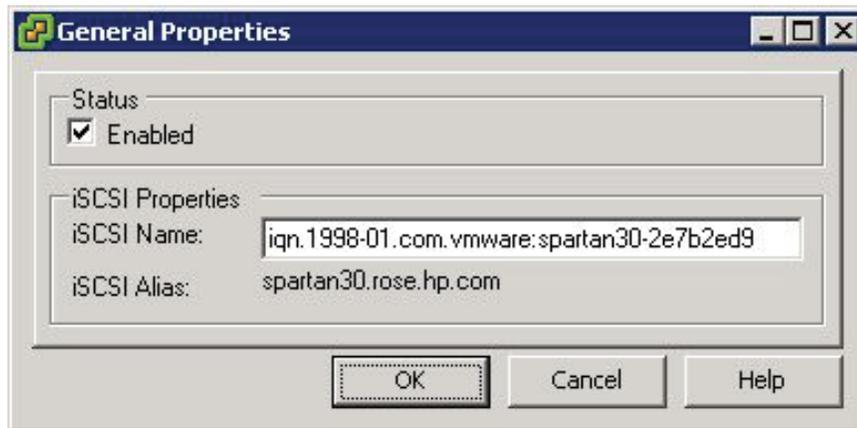

Figure 39 General properties dialog box
- f. The **General properties** dialog box displays (Figure 39). Select the **Enabled** checkbox .